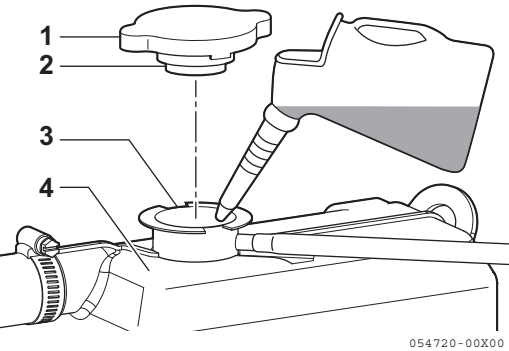

Figure 11
4. Pour coolant slowly into the coolant tank / heat exchanger (Figure 11, (4)) to avoid air bubbles. Fill until coolant overflows from the filler port.
5. Align the filler cap tabs (Figure 11, (1)) with filler port notches (Figure 11, (3)) and tighten the filler cap (Figure 11, (2)).